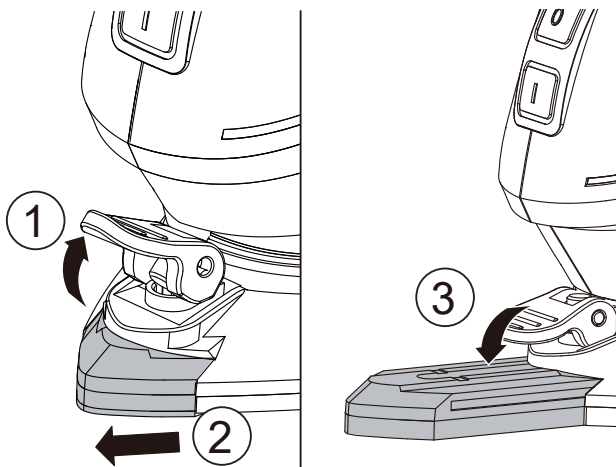

Figure 4
4. USING FINGER PAD (SEE FIG. 4)